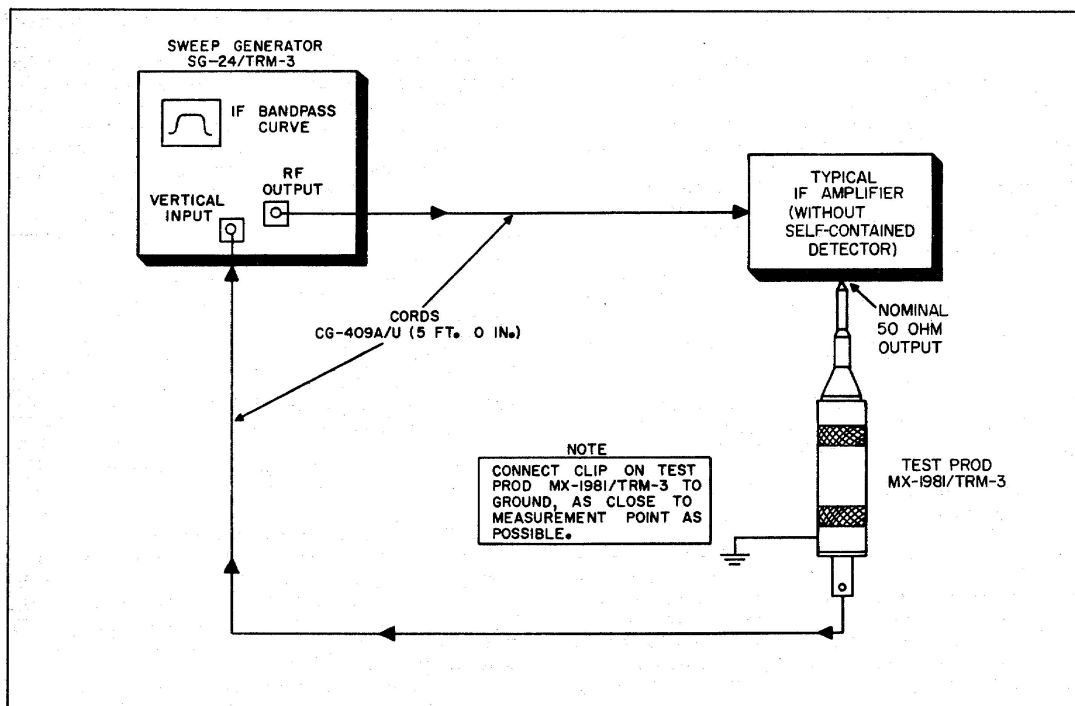

Figure 2-3. Typical Application for Test Prod MX-1981/TRM-3 and Cords CG-409A/U
- b. Figure 2-3 illustrates the connections required for the alignment of a typical i-f amplifier that does not include a self-contained detector at its output. For